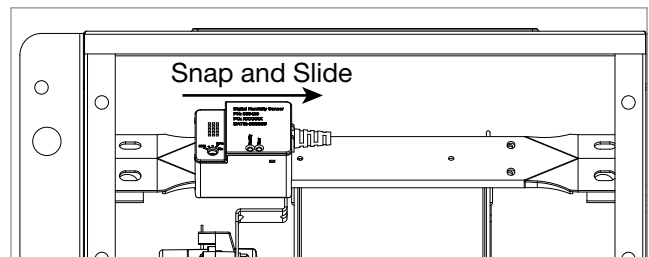

Fig. 1
2. If sensor is not pre-installed, remove sensor from package, snap onto blower support bracket and slide sensor over the rivets as shown in Fig. 1.